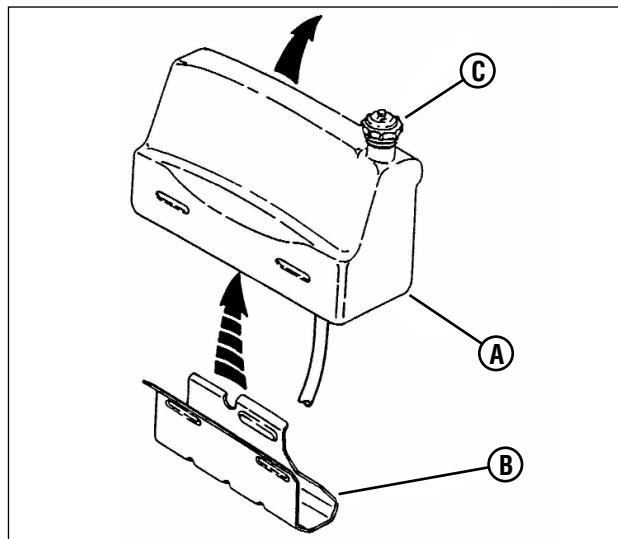

Figure 31: Removing the fuel tank
1. From the left side of the machine, pull the fuel tank (A, Figure 31) straight up and away from the fuel tank bracket (B).
2. Holding the fuel tank, remove the fuel filler cap (C) and pour any remaining fuel into an approved container.